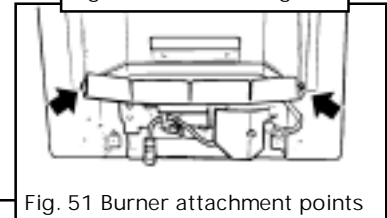

Fig. 51 Burner attachment points
**13.7.5** Remove the burner assembly by removing the three fixing screws, one at each end of the burner tray and one next to the igniter unit (see figure 51). Carefully remove the burner assembly.